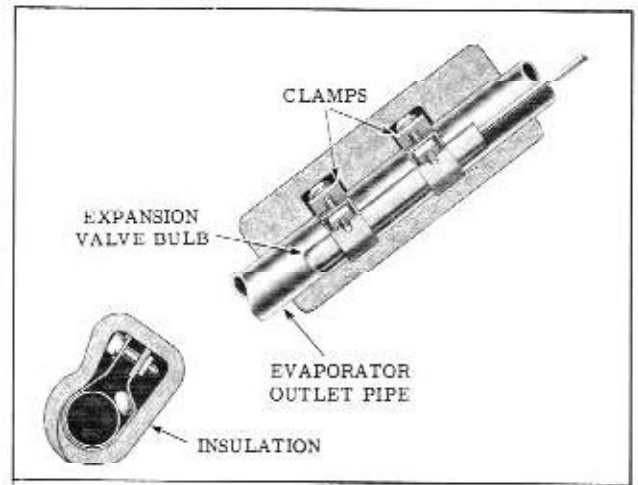

Fig. 14-36 Expansion Valve Bulb
7. If necessary to service expansion valve, remove expansion valve from evaporator by loosening the line fitting and removing the capillary bulb clamps. (Fig. 14-36)